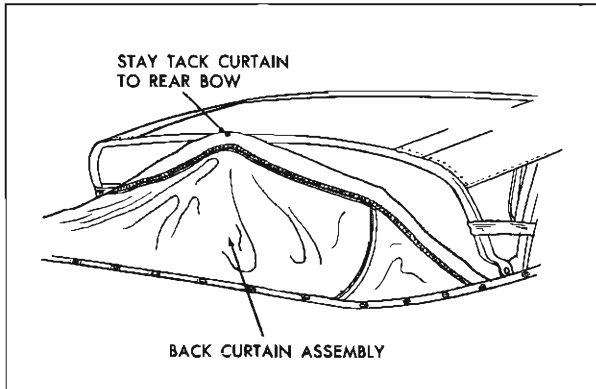

Fig. 21-44 Stay Tacking Back Curtain
16. Secure back curtain assembly with one tack to rear bow to prevent damage to plastic sheet (Fig. 21-44).